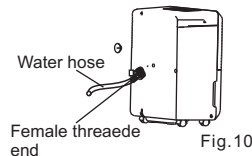

Fig. 10
- Install the female threaded end of the water hose into the adaptor A. (See Fig. 10), then lead the water hose to the floor drain or a suitable drainage facility.